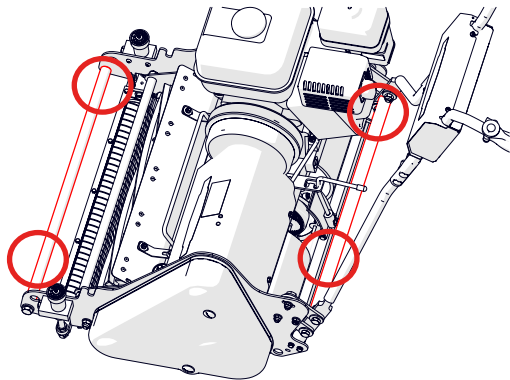

Fig.23 - Anchor points for transport.
- Anchor the machine to the floor/pallet using suitably rated tie-down straps. Anchor around the front and rear tie-bars (high-lighted red in Fig. 23).